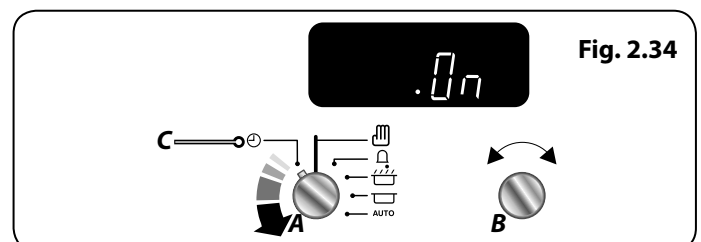

Fig. 2.34
2. Turn the **Timer (A)** knob to the **Clock (C)** setting and hold for approx 8 seconds. The display will show 'ON' (**Fig. 2.34**).